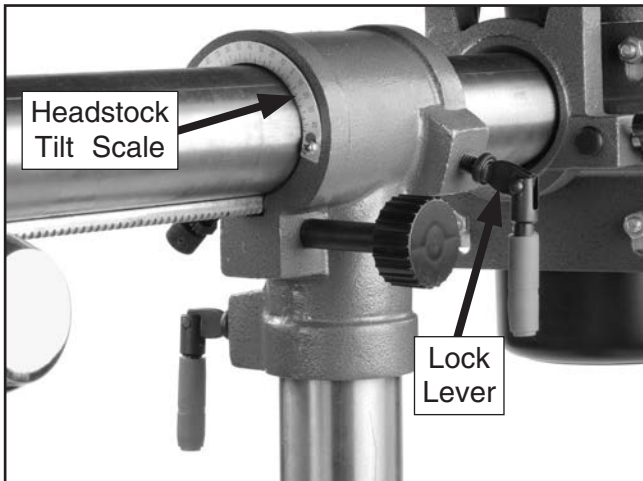

Figure 32. Headstock lock lever and rotation scale.
1. Loosen the lock lever on the right side of the headstock (see **Figure 32**).
3. Tilt the headstock to the desired angle on the scale and tighten the lock lever on the right side of the headstock (see **Figure 32**).
1. Loosen the lock lever located on the right side of the headstock (see **Figure 32**).